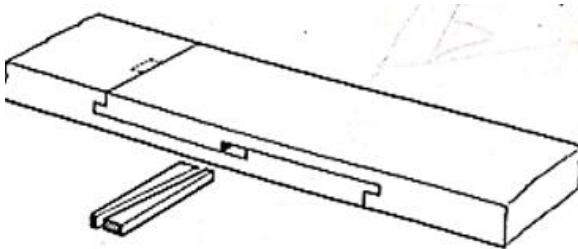

Fig. 3.11: Scarf joint
**Scarf for jointing timber in length.** Resists both tension and compression. Extra tenons (dotted lines) help to resist side strain (fig. 3.11).